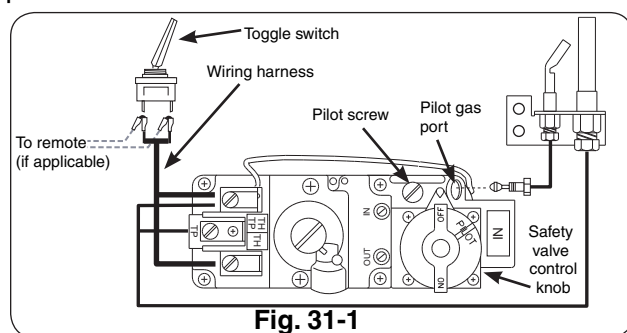

Fig. 31-1
To read the safety valve control knob (Fig. 31-1), read the marking nearest the teardrop-shaped metal pointer.
- b. If adjustment is necessary (Fig.31-1), turn the gas adjustment screw counterclockwise ↺ to increase the pilot flame, or clockwise ↻ to decrease the pilot flame.